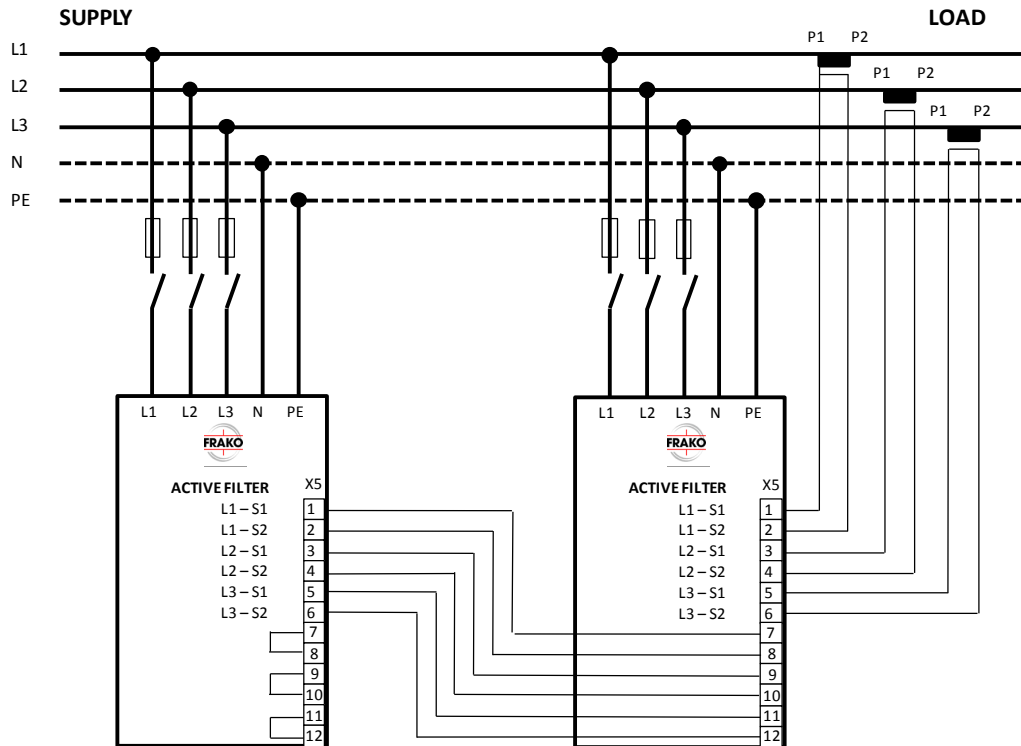

Figure 17. CT connection – parallel connected active filters
Seven (7) units can be connected in parallel when operating in open loop configuration (CTs on the load side). Therefore one set of current transformers may feed current signals for all seven units. Internal current signals shall be connected in series as shown in Figure 17.